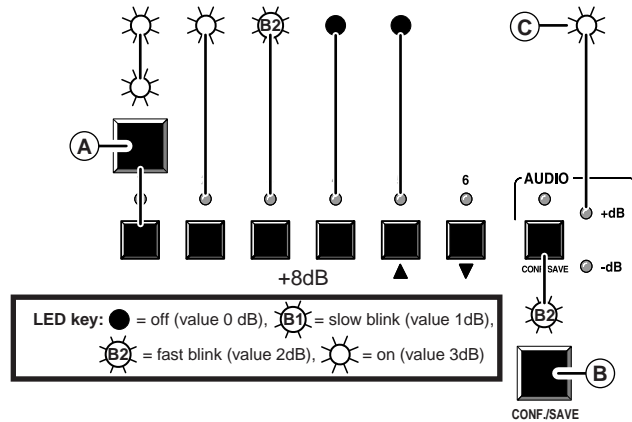
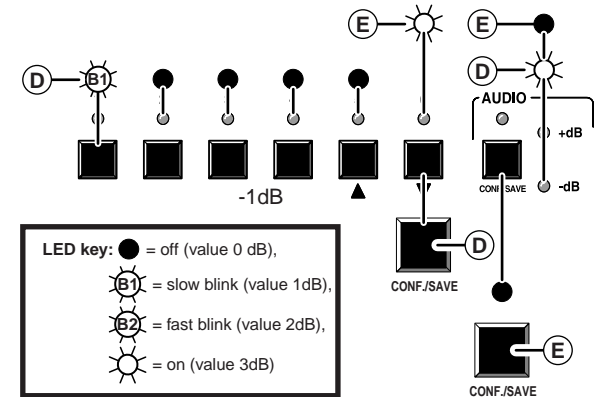

Figure 3-3 — Viewing the audio level
Figure 3-4 — Adjusting the audio level
See figure 3-3 and figure 3-4 and the following steps for an example of viewing and adjusting the audio level on a switcher with audio.
- The gain or attenuation value is displayed in the input 1 through 5 LEDs. In Figure 3-3, the value +8dB is displayed.
- Press and release the ▼ button several times to decrease the audio level displayed in the input LEDs by 1dB per button push. Note the input LED, +dB LED, and -dB LED changes that occur each time the ▼ button is pressed and released. Figure 3-4 shows the result of pressing the ▼ button a total of nine times to change the value to -1dB. Note that the +dB LED has turned off and that the -dB LED is on to indicate a negative level.